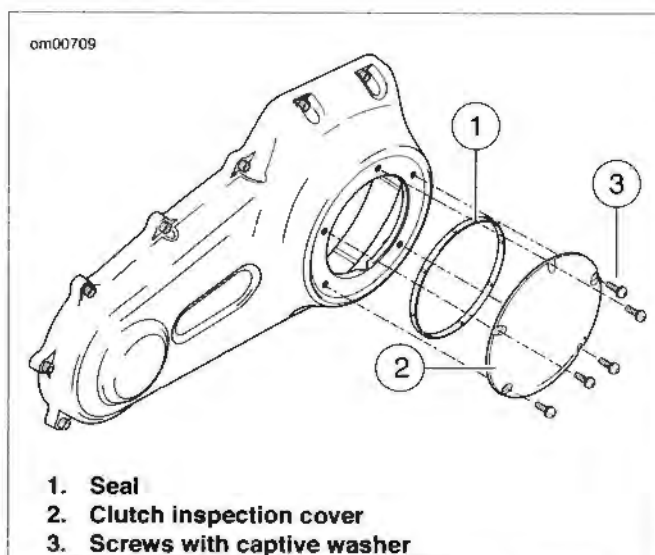

Figure 1-13. Clutch Cover
6. See Figure 1-13. Remove five TORX screws with captive washers (3) to detach clutch inspection cover (2) from primary chaincase cover.
7. Remove the seal (1). Wipe oil from groove in chaincase cover and mounting surface.
- b. See Figure 1-13. Position **new** seal (1) in groove in clutch inspection cover and press each of the nubs on seal into the groove. The nubs will retain seal in position.